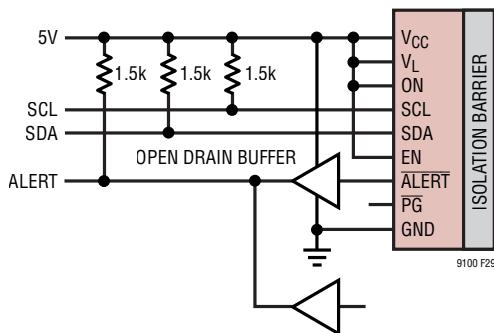

Figure 29. Open Drain Buffer for Shared ALERT Bus
Any of eight distinct I²C bus addresses are selectable using the three-state pins ADR0 and ADR1, as shown in Table 2. Note that the configuration of ADR0 = L and ADR1 = H is used to enable the single-wire broadcasting mode. For the eight I²C bus addresses, address bits b7, b6 and b5 are configured to (001) and the least significant bit b0 is the R/W bit. In addition, the LTM9100 will respond to two special addresses. Address (0011 111) is a mass write used to write to all LTM9100s, regardless of their individual address settings. Address (0001 100) is the SMBus alert response address. If the LTM9100 is pulling low on the ALERT pin, it will acknowledge this address using the SMBus alert response protocol. Note, if multiple LTM9100's are configured to share a single ALERT bus then the addition of an open drain buffer is necessary, see Figure 29.